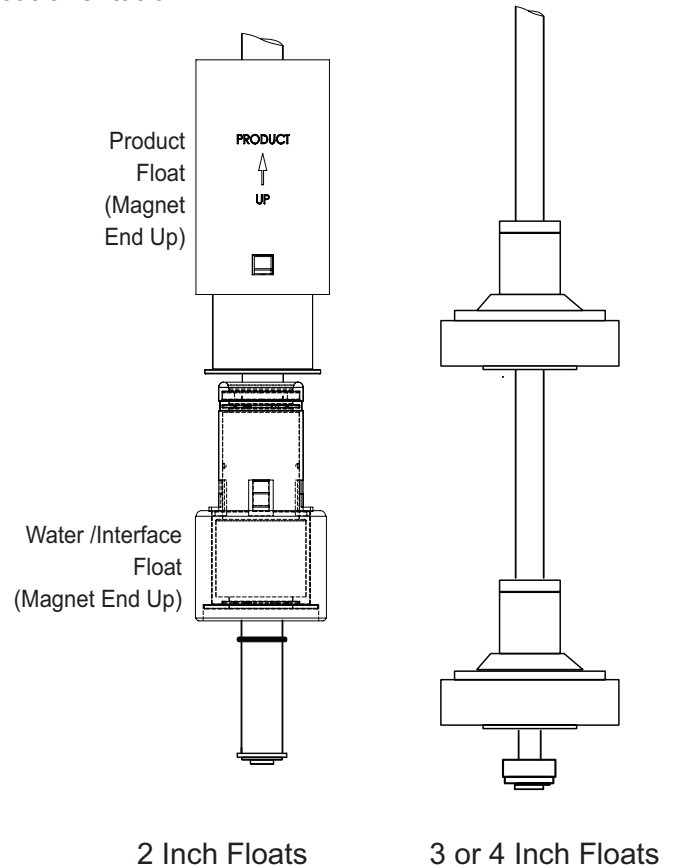

Figure 2: Float Orientation
2. Install the floats as shown in figure 2.